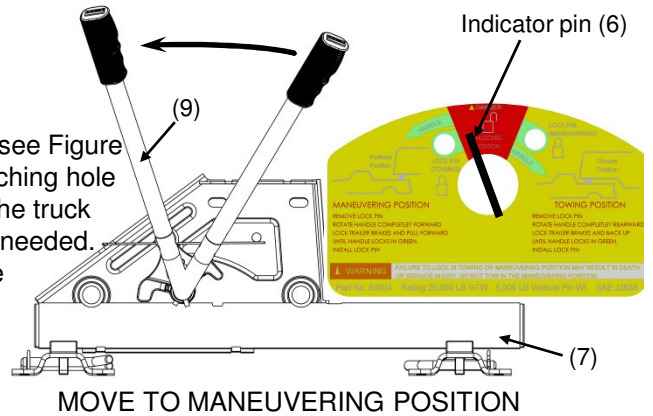

Figure 15
3. Remove lock pin from towing hole and pull handle (9) forward (see Figure 15). If handle (9) is hard to move it may be wedged into the latching hole in the slider tube (7). This can be remedied by slightly moving the truck back or forth until the handle (9) moves freely. Repeat step 2 if needed.
4. Indicator pin (6) should be over the red unlocked range, near the green maneuvering range (see Figure 15). Spring pressure will press latch against top of tube.